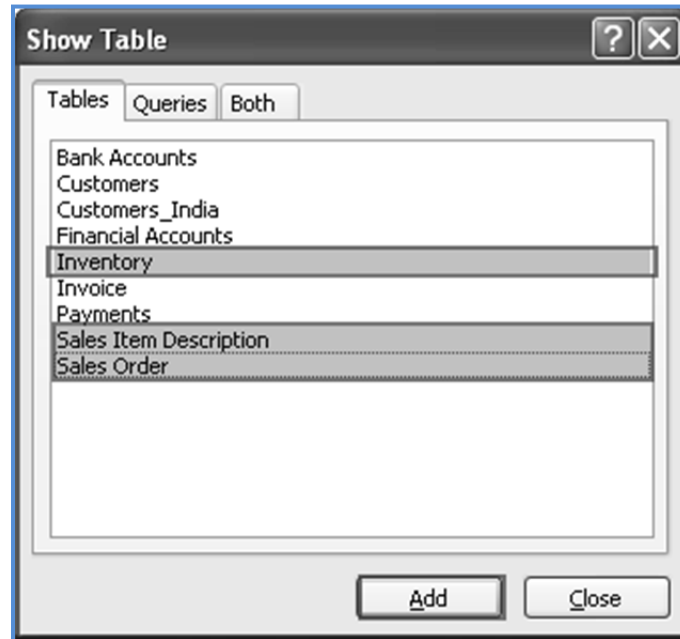

Fig. 1.2.52: Show Table window
2. Select the *Inventory*, *Sales Item Description* and *Sales Order* tables from **Show Table** window and click **Add**, as shown in Fig. 1.2.52.